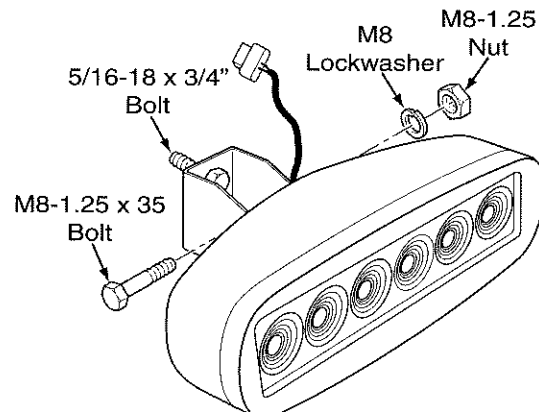

Figure 4. Assemble Mounting Brackets
5. Identify the mounting brackets supplied with each light assembly included in this kit. Install (1) one 5/16-18 x 3/4 inch bolt into the mounting bracket as shown in Figure 4. Using the hardware provided with each light assembly, install (1) one mounting bracket onto each light and secure using (1) one M8-1.25 x 35 hex head bolt, (1) one M8 lockwasher and (1) one M8-1.25 nut. See Figure 4. Do not tighten hardware at this time.